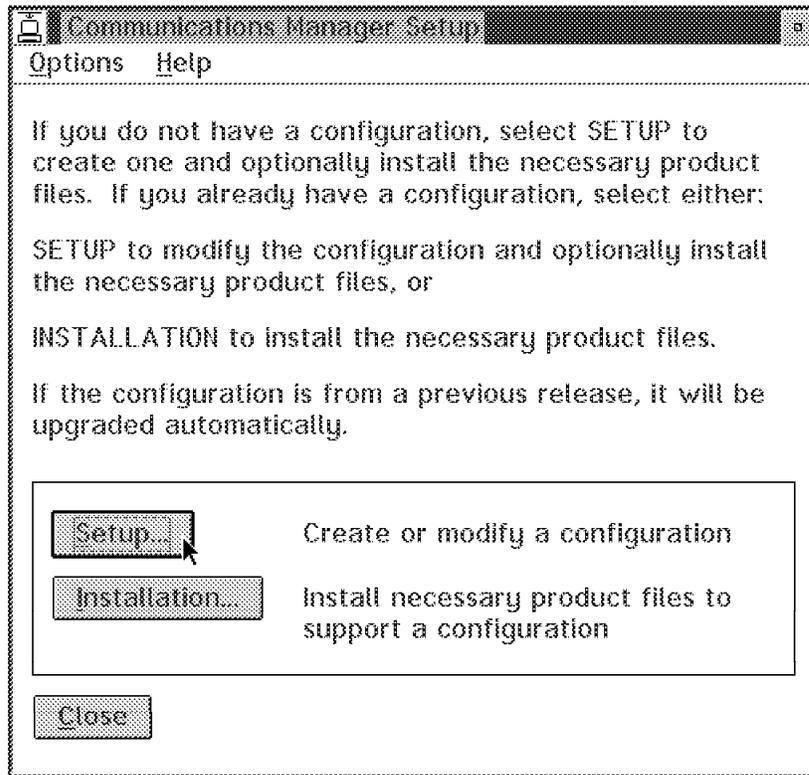

Figure 169. Setup/Installation Window
2. Click on the **Setup** push button on Figure 169 on page 238 to modify a configuration.